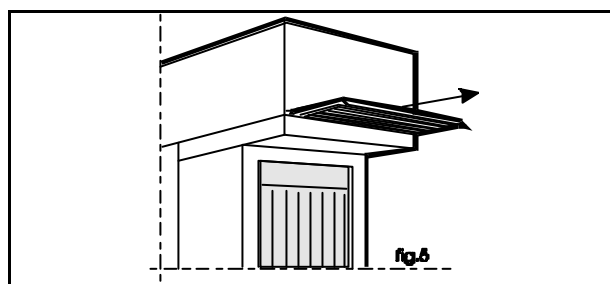

fig.6 – Steam condenser
- 8 - For machines with steam condensation only, remove the steam aspiration filter (fig.6) end clean it.